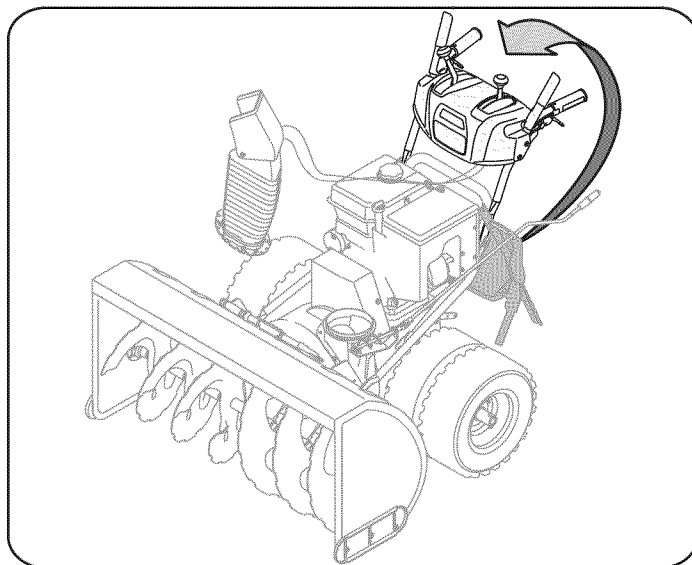

Figure 1
1. Make certain the springs at the lower end of the auger and drive cables are securely hooked into their respective actuator brackets before pivoting the handle upward. Refer to Fig. 1.
- c. Remove the upper wing knob and carriage bolt from each side of the lower handle. Pull up on upper handle as shown in Fig. 1. Align upper handle with the lower handle. Again, make certain the springs at the lower end of the auger and drive cables are securely hooked into their respective actuator brackets. Also, remove any rubber bands securing the cables to the wing nuts.